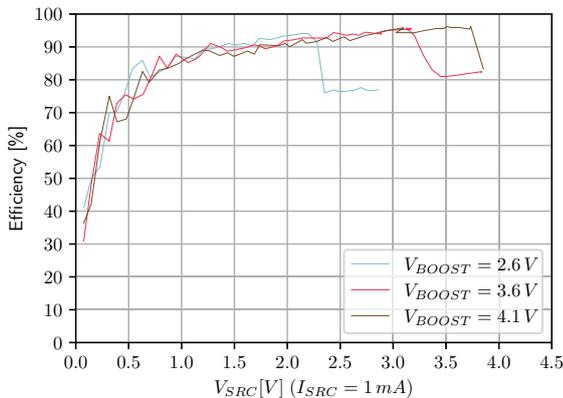

Figure 10: Boost efficiency for $I_{SRC} = 1$ mA
- **VBOOST**: Measure the current and the voltage. Repeat the measurement a copious number of times to be sure to capture the current peaks. Figure 10 has been obtained by averaging over 100 measurements configured with a 100 ms integration time.